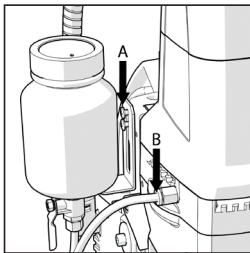

Fig. 3
- The coolant system should be fastened to the machine using the \varnothing 6 mm socket headed screw inserted into the threaded hole located at the top left hand side of the machines carriage. **(Fig. 3 a)**